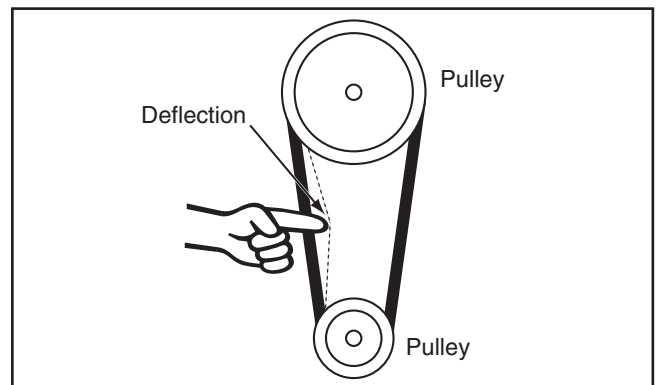

Figure 70. Checking belt deflection.
8. Check belt deflection, as shown in **Figure 70**.